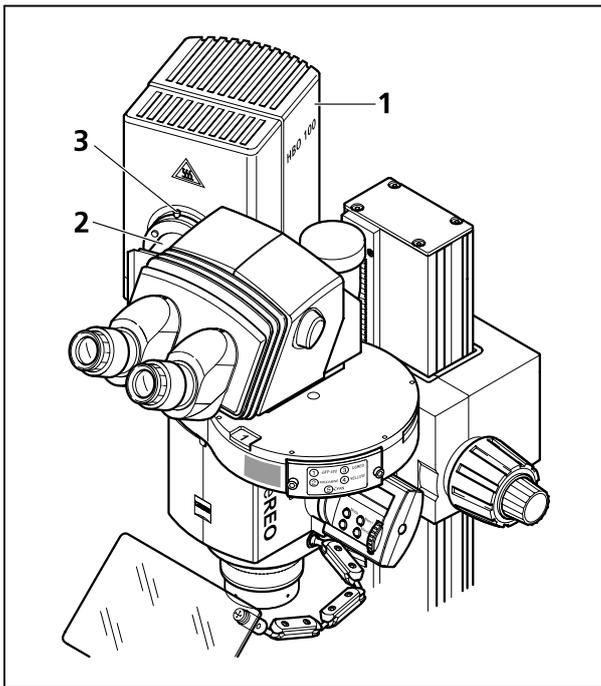

Fig. 25 Connecting the HBO 100 illuminator to the PentaFluar S/HBO 100
- Loosen clamp screw (Fig. 25/3) on the mounting port (Fig. 25/2) of the PentaFluar S/HBO vertical illuminator.
- Attach the HBO 100 illuminator (Fig. 25/1) to the mounting port, align it and tighten the clamp screw.